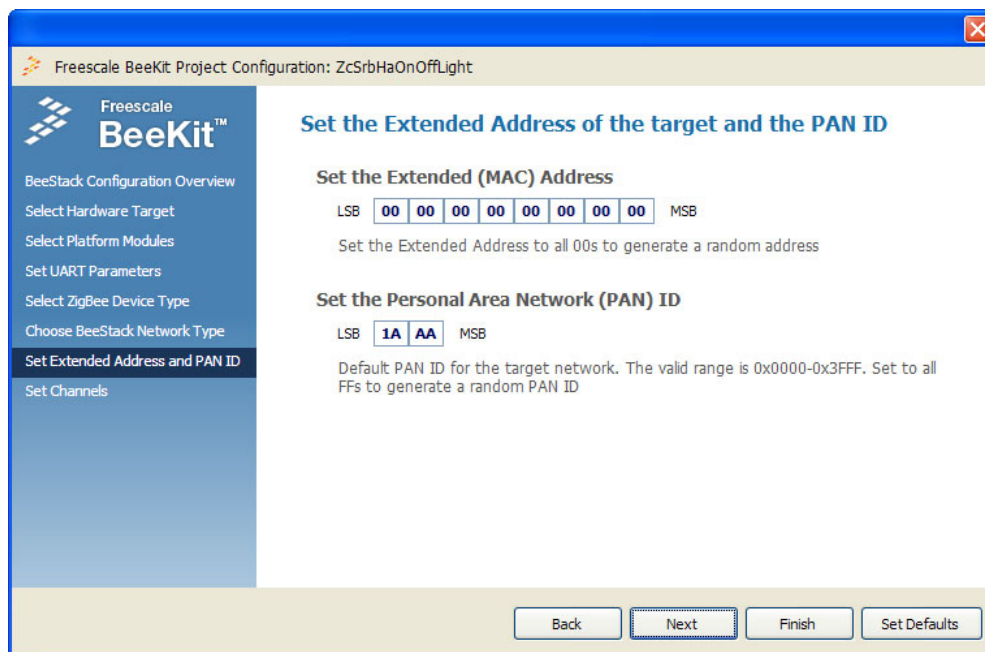

Figure 3-9. Extended Address and PAN ID Selection Page
10. Click Next. The Extended address and PAN ID page appears as shown in Figure 3-9.